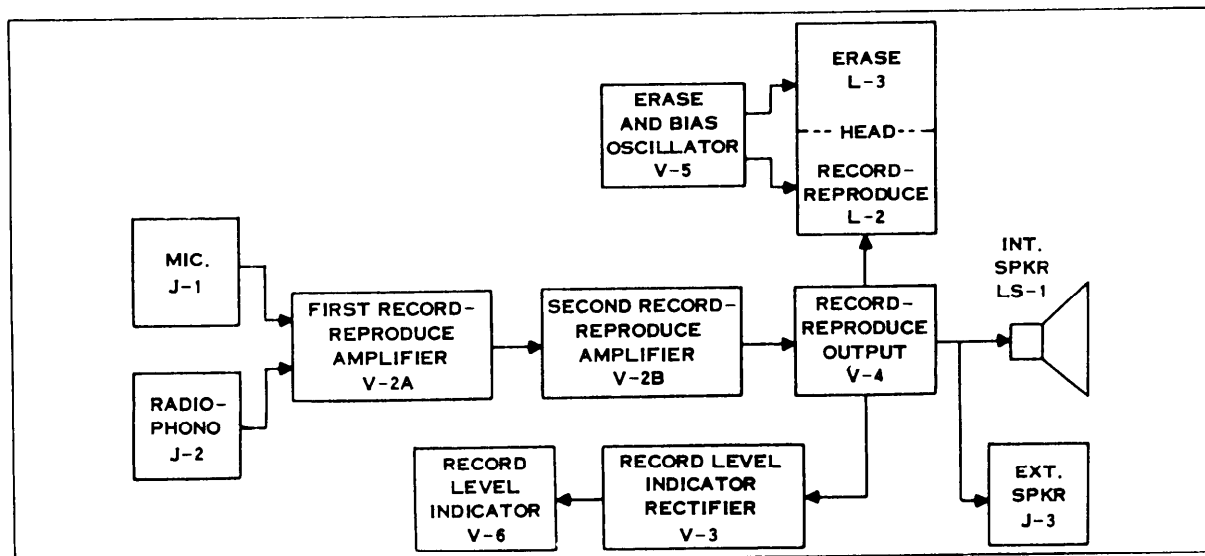

Figure 13. Record Circuit - Block Diagram
5.7.1 The amplifier assembly consists of an amplifier, power supply, input and output signal connection, connections for a magnetic record-reproduce-erase head, and drive motor and input power connections. A RECORD-LISTEN switch (S-2) provides for proper interconnection of the amplifier components for the desired mode of operation. Figures 13 and 14 illustrate the relative connections of the components in the two modes.